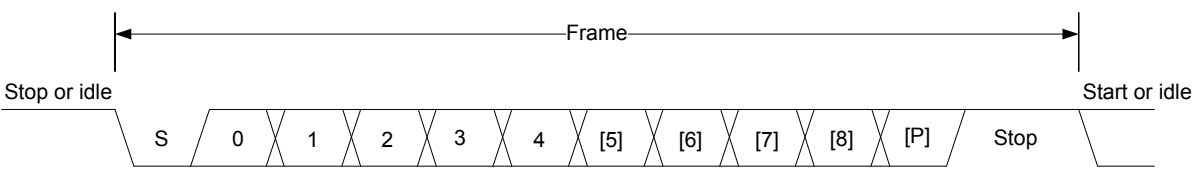

Figure 20.2. USART Asynchronous Frame Format
The frame format used in asynchronous mode consists of a set of data bits in addition to bits for synchronization and optionally a parity bit for error checking. A frame starts with one start-bit (S), where the line is driven low for one bit-period. This signals the start of a frame, and is used for synchronization. Following the start bit are 4 to 16 data bits and an optional parity bit. Finally, a number of stop-bits, where the line is driven high, end the frame. An example frame is shown in Figure 20.2 USART Asynchronous Frame Format on page 483.